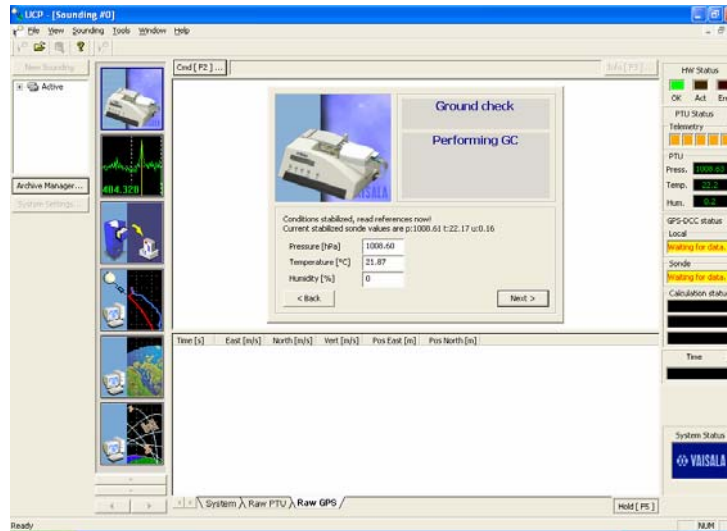

Figure 11
- 11) Wait until you see the next screen (Figure 11). The spaces for Pressure, Temperature, and Humidity will be blank in the middle window. Do the following: